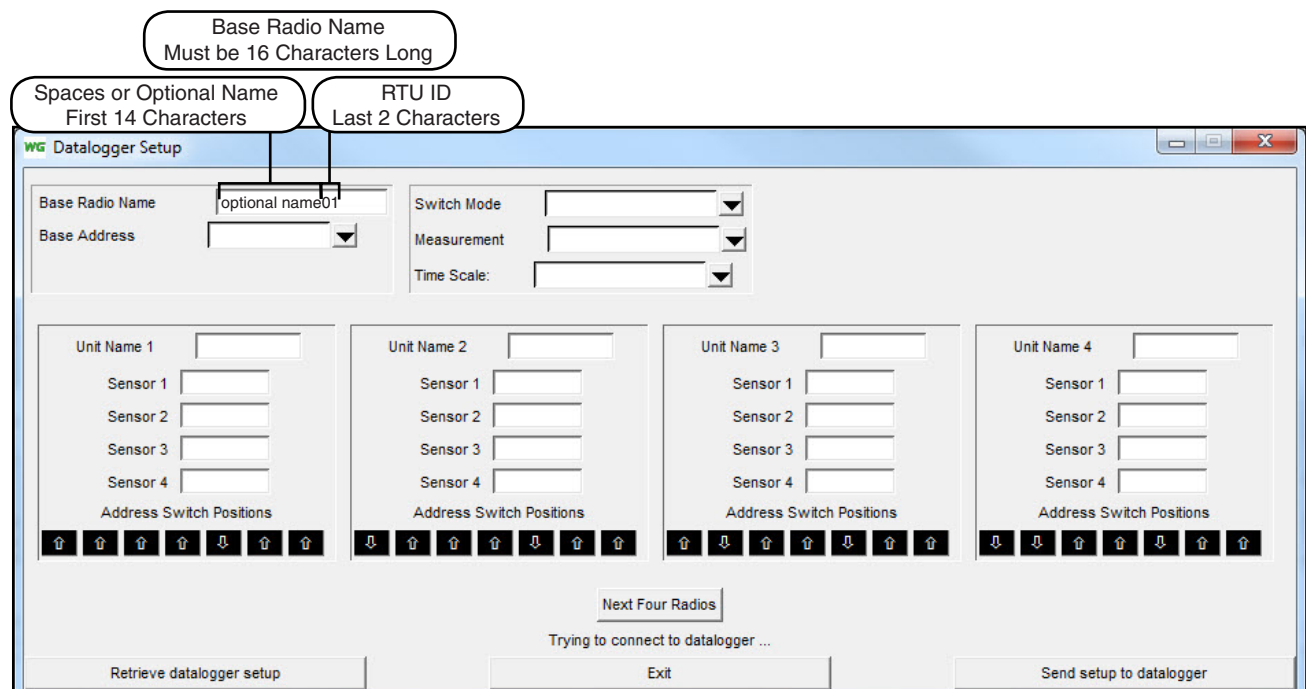

Figure 27-1 Datalogger Setup Screen
- a. Predetermine what the Base Radio Name and RTU ID will be for each datalogger. See Irrrometer/WaterGraph guidelines for Base Address, Unit Name, Sensor Name and Switch Mode configuration. See figure 27-1.